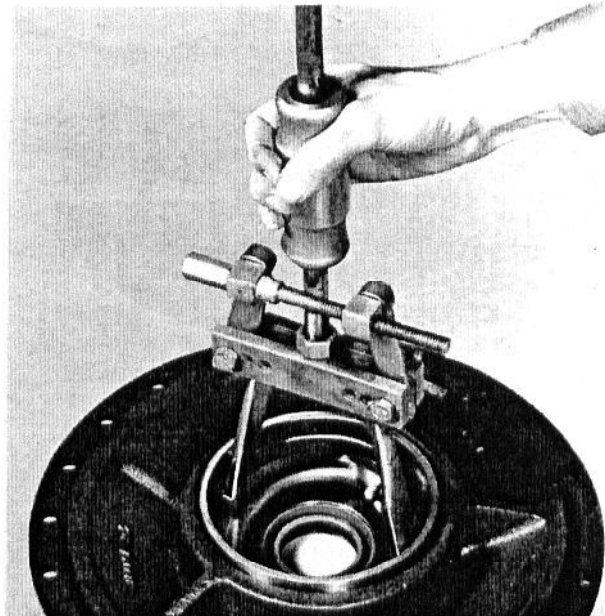

Fig. 13 - Carrier Bearing Cup Removal (Diff. Lock)
5. Right side differential lock models only: Remove the R. H. carrier bearing cup as shown in Fig. 13.